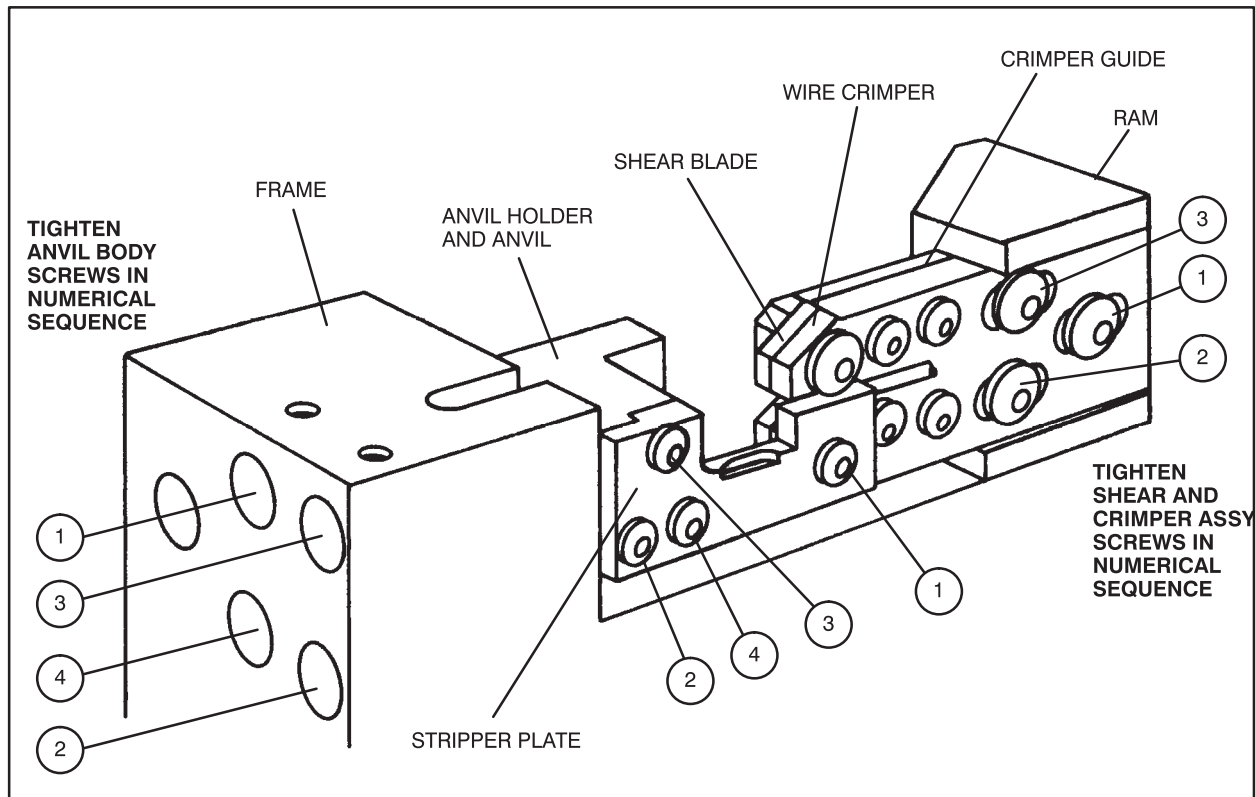

Fig. 3–1. Tooling Alignment Check Points
3.2. Preloading Alignment Check (Figure 3–1)